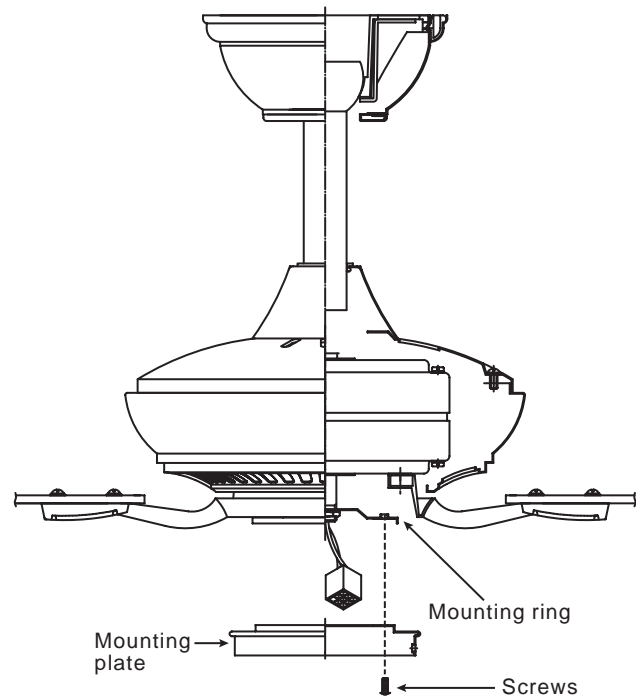

Fig. 21
2. Place the key holes on the mounting plate over the 2 screws previously loosened from the mounting ring, turn mounting plate until it locks in place at the narrow section of the key holes. Secure by tightening the 2 screws previously loosened and the one previously removed. (Fig. 21)
Fan wobble.	<ol style="list-style-type: none"> 1. Check that all blade and blade arm screws are secure. 2. Most fan wobbling problems are caused when blade levels are unequal. Check this level by selecting a point on the ceiling above the tip of one of the blades. Measure this distance.(Fig. 21) Rotate the fan until the next blade is positioned for measurement. Repeat for each blade. The distance deviation should be equal within 1/8". 3. Use the enclosed Blade Balancing Kit if the blade wobble is still noticeable. 4. If the blade wobble is still noticeable, interchanging two adjacent (side by side) blades can redistribute the weight and possibly result in smoother operation. <p>WARNING: TO REDUCE THE RISK OF PERSONAL INJURY, DO NOT BEND THE BLADE ARM WHILE INSTALLING, BALANCING THE BLADES, OR CLEANING THE FAN. DO NOT INSERT FOREIGN OBJECTS BETWEEN ROTATING FAN BLADES.</p>